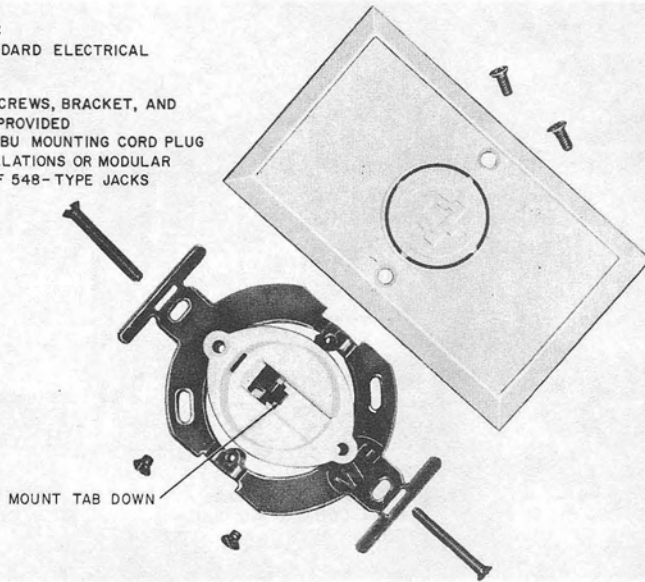

Fig. 2—625B Connecting Block (With Mounting Hardware)⚡
- Provide top/bottom orientation to modular connectors (Fig. 2, 3, and paragraph 3.11) and Warning to paragraph 3.01
- Block, Connecting, 625B (Fig. 2)
2.03 The **625B** connecting block (Fig. 2) includes the 625F connecting block, 65A faceplate package, and two mounting screws. It is intended for new installations or modular replacement of 548A jacks or 47F connecting blocks.
(b) **Flush-type:** Jack-opening oriented with spring contacts up and tab down (Fig. 2, 3, and 7).
3.03 625B Connecting Block: Mount the bracket on a standard electrical outlet box or directly to the wall (must have recessed area) using the mounting screws supplied (see Fig. 2). Feed the station wire through the center mounting hole of the bracket and terminate the leads on the connecting block as shown in Table A. Mount the connecting block on bracket and fasten with the two screws supplied. Attach faceplate with the two screws supplied.